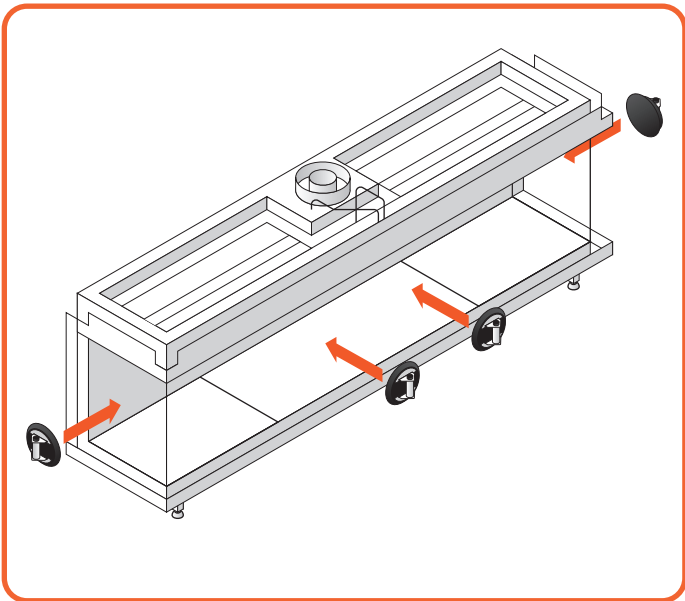

Figure 10.4 - Put on suction cup
- Put the section cup on the glass and make sure it is properly vacuumed, so it will not come off. (See **Figure 10.4**)